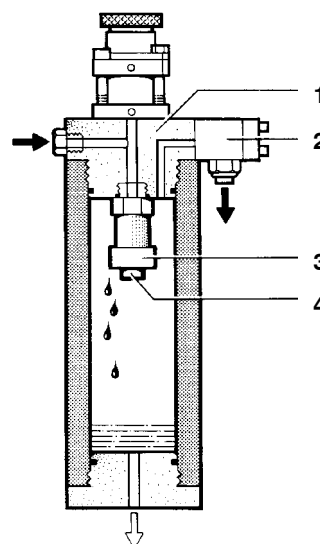

Fig. 9 Oil and water separator
The air leaving the final stage is cooled in the after-cooler to approx. 10 to 15 °C (18–27 °F) above ambient temperature and then enters the oil and water separator (Fig. 9). The oil and water separator works by means of a sintered filter micro-cartridge (1), reliably separating liquid oil and water particles from the compressed air.